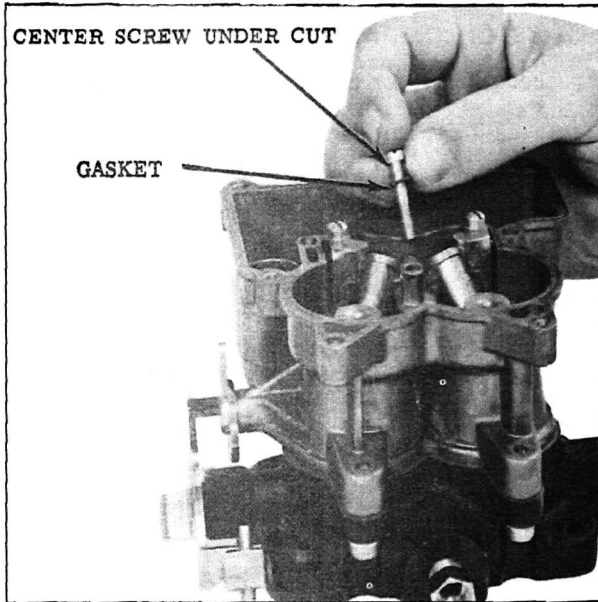

Fig. 25 Venturi Cluster Screws
4. Replace cluster and gasket, tightening screws evenly and securely. Make sure center screw is fitted with gasket to prevent pump leakage. (See Fig. 25)